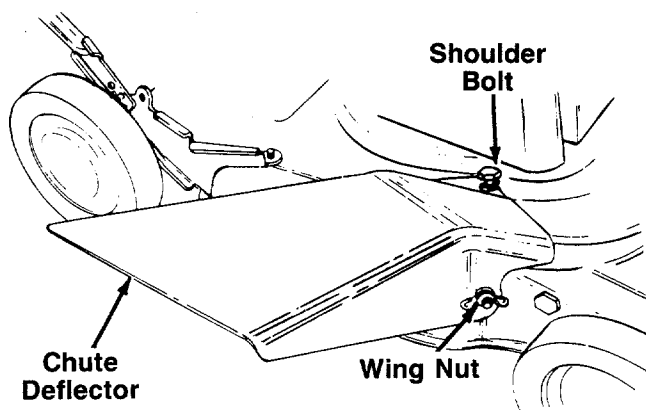

FIGURE 9.
2. Secure the front of the deflector to the bolt protruding from the deck with one wing nut. See figure 9.